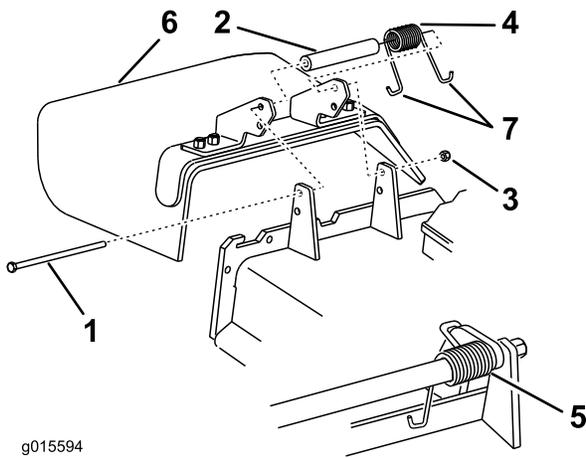

Figure 97
1. Remove the locknut, bolt, spring and spacer holding the deflector to the pivot brackets (Figure 97). Remove damaged or worn grass deflector.
Note: Make sure that one **J** end of the spring is installed behind the deck edge before installing the bolt as shown in Figure 97.
3. Install the bolt and the nut. Place one **J** hook end of the spring around the grass deflector (Figure 97).